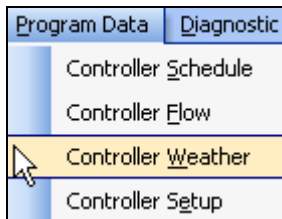

Figure 16.4.1B
1. In the toolbar at the top of the screen click on **Program Data** then scroll down to the words **Controller Weather** and click on it (Figure 16.4.1B).